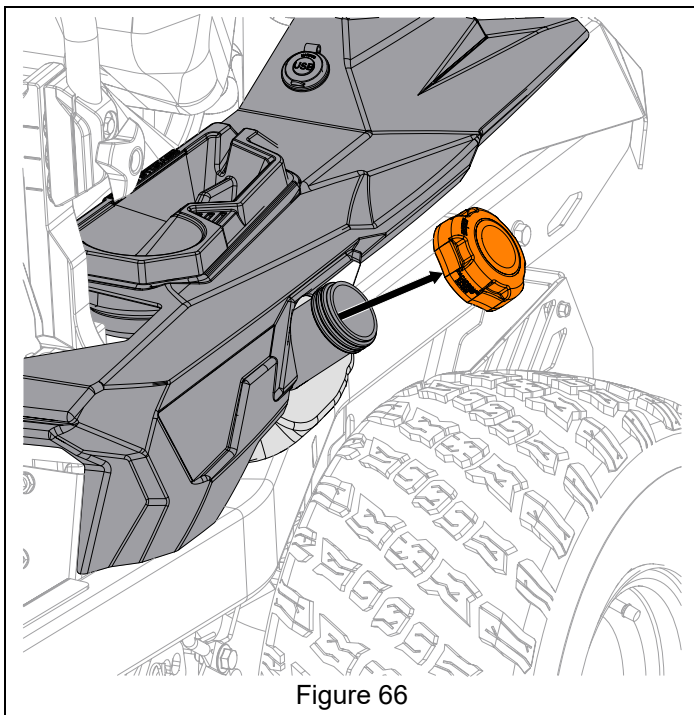

Figure 66
2. Disconnect fuel cap with tether from tank. See Figure 66.